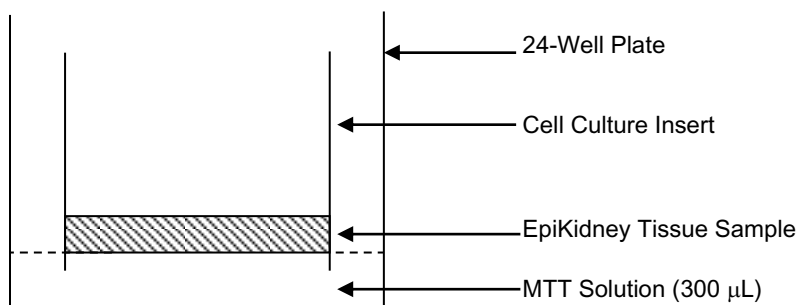

Figure 4: Incubation in the MTT Solution (37°C , 95% RH, 3 hrs, 5% CO_2)
f) MTT loading: Return the EpiKidney samples in the 24-well plate to the incubator for $3 \text{ hours} \pm 5 \text{ minutes}$. See **Figure 4**. *Note: Deviations from the 3 hour time for MTT incubation will result in different readings.*